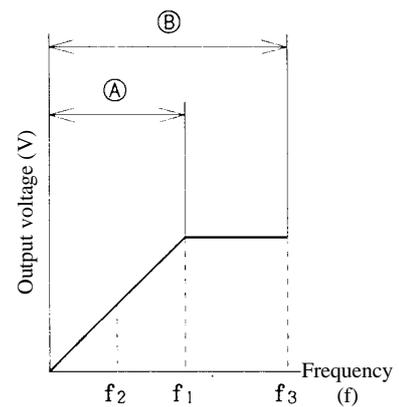

Figure 9.2 Voltage-vs-frequency characteristics
This braking torque is a function of voltage versus frequency. For example, the difference between the torque at frequency f_1 and the torque at frequency f_3 in Figure 9.2 is caused by the difference between their voltage-vs-frequency ratios.
- T_B (A): Mean braking torque at 3 Hz to 60 (or 50) Hz (For meanings of (A), see Figure 9.2.)